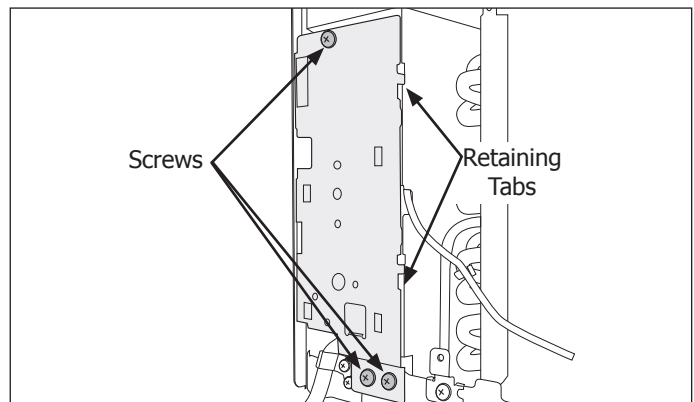

Figure 4-94.
3. Extract the screws from front of control panel assembly. (See Figure 4-94)